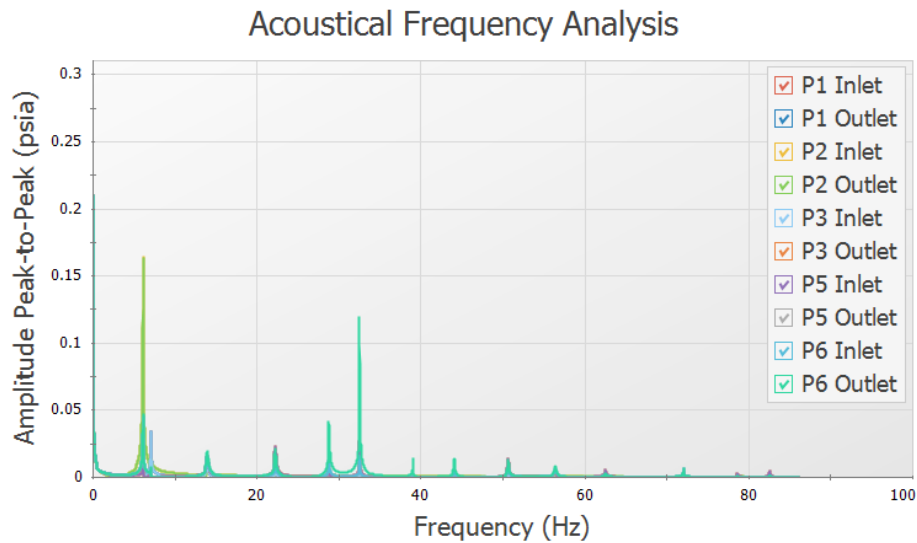
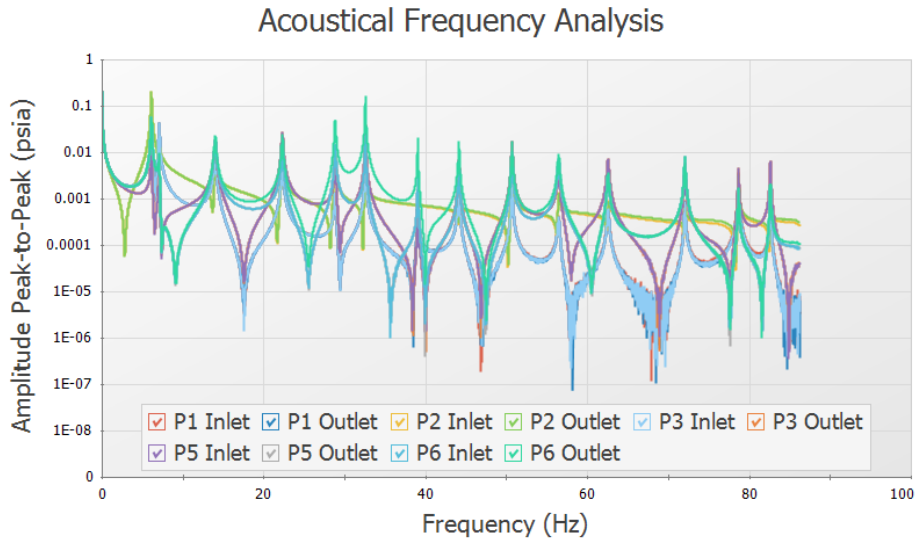

Figure 9: Excitation Frequency Analysis graph
Figure 10: Excitation Frequency Analysis Graph with Magnitude on Logarithmic Scale
- d. Click Generate. The resulting graph (shown in Figure 9) represents the frequencies that are excited by the pulse defined in the Pulsation Setup window.
- e. From the graph in Figure 9, we see that there are several frequencies that produce a large pressure magnitude. Points on the plot with a large response magnitude are easily identified by finding local maxima on the graph. These maxima are the acoustic natural frequencies that are potentially the most damaging when excited by the identified pump speeds.
- f. Note that the graph in Figure 9 can quickly be changed to display the magnitude on a logarithmic scale in order to allow for easier viewing of the magnitude behavior changes with a changing frequency. To view the Excitation Frequency Analysis graph with the magnitude displayed on a logarithmic scale, generate the frequency graph as discussed above. Right-click on the y-axis and select the box next to Logarithmic. See Figure 10 for an image of the graph in Figure 9 with the amplitude changed to be displayed on a logarithmic scale.